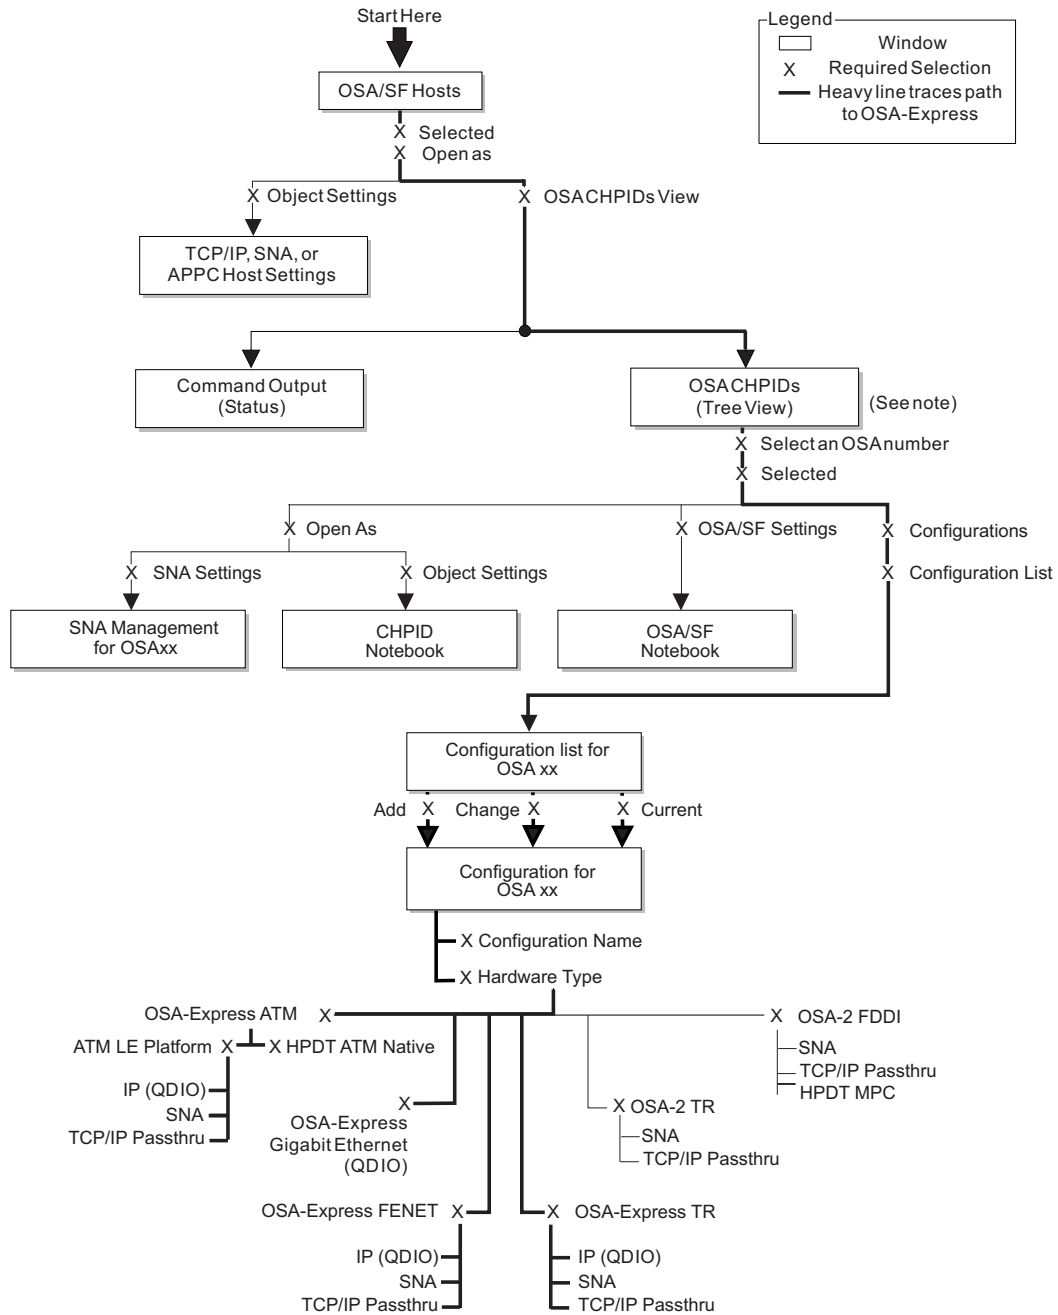

Figure 63. OSA/SF GUI Main Window Flow and Required Selections
- See Figure 63 on page 117 for a visual flow of the GUI.